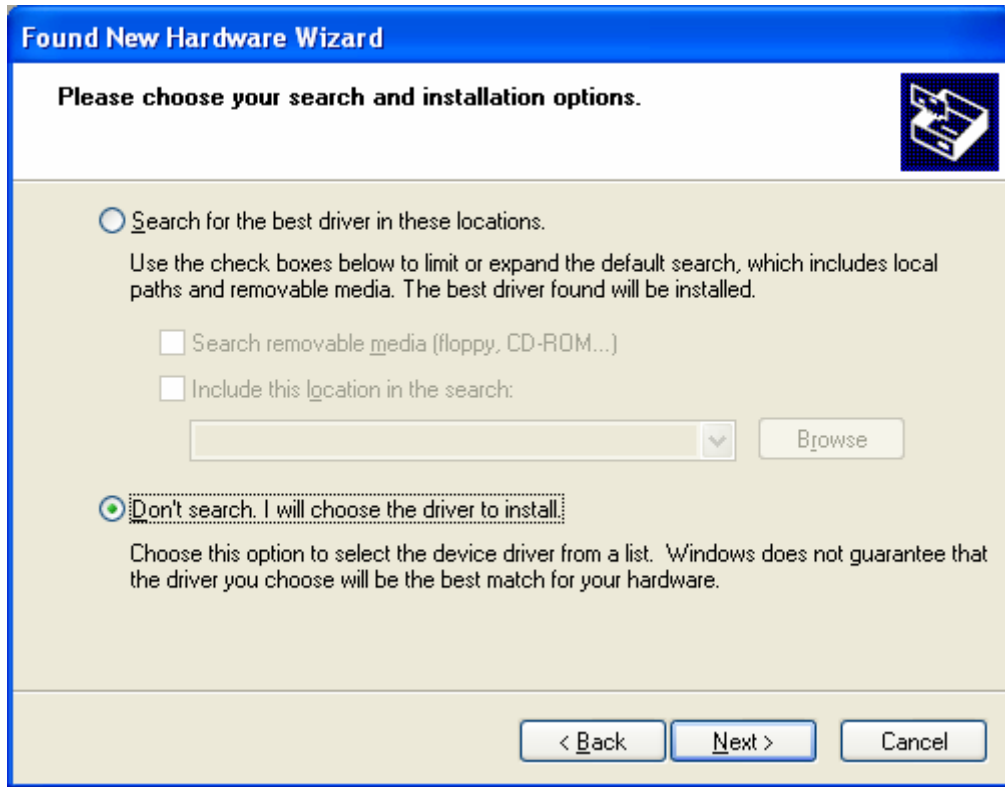

Fig. 05
Step 5: Select “Don’t search. I will choose the driver to install” and click on “Next” to continue. (Fig. 05)